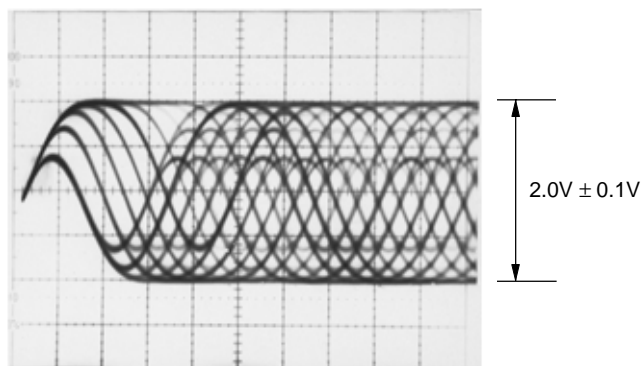

Fig. 23
• Measurement instrument connections	Oscilloscope CH1 to CN204, Pin-5 (FCSIN) via 100k½ resistor Oscilloscope CH2 to CN204, Pin-6 (FCSER) (SERVO UCOM BOARD assy) See Fig.23 below. [Settings] CH1 : 0.1 V/div., X-Y mode CH2 : 10 mV/div. GND probe can be connected to CN204, Pin-4 (AGND).